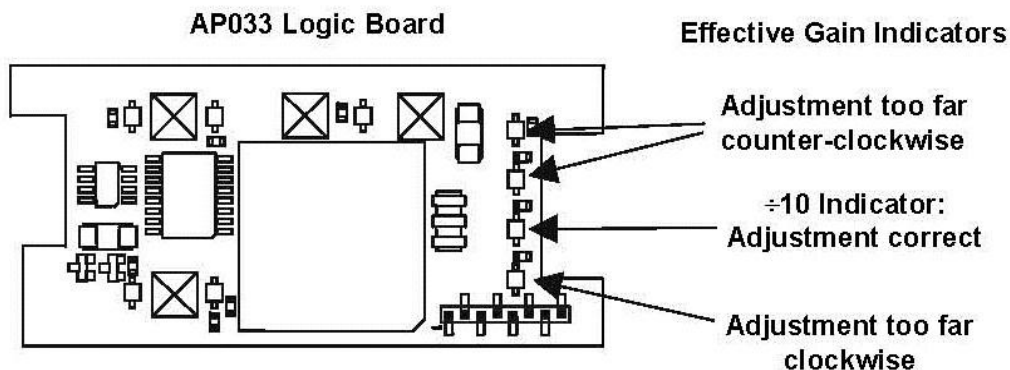

Figure 10, ± 10 Effective Gain Indicator
7. In Cal Mode, the EFFECTIVE GAIN indicators serve as an adjustment indicator. The EFFECTIVE GAIN indicators are located on the Logic Board (See Figure 10.) It may be necessary to hold the boards in your hands to see the indicators while making the adjustment.
12. Adjust $\div \square \square$ CMRR (R7) for minimum amplitude. (See Figure 10 for location.)
8. Adjust Attenuator Comp (C17A) for a flattop waveform. See Figure 10 for adjustment location.
5. Adjust Attenuator CMRR (capacitor C18A) for minimum amplitude shift of the displayed waveform at the trigger point in time. See Figure 10 for adjustment location.